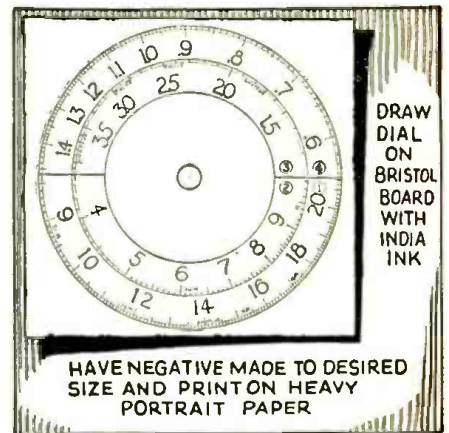

Fig. 3. Make your own all-wave dial to suit.
**HOME-MADE SET DIALS.** In making dials for receivers, meters, etc., the idea shown in Fig. 3 will enable you to have a neater job than can be secured in the ordinary way.